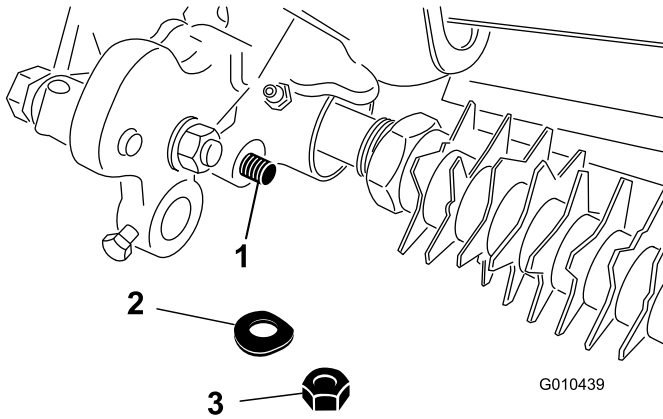

Figure 31
- Remove the locknut and spring washer securing the height-of-cut-arm-assembly rod end to the groomer-drive assembly (Figure 31).